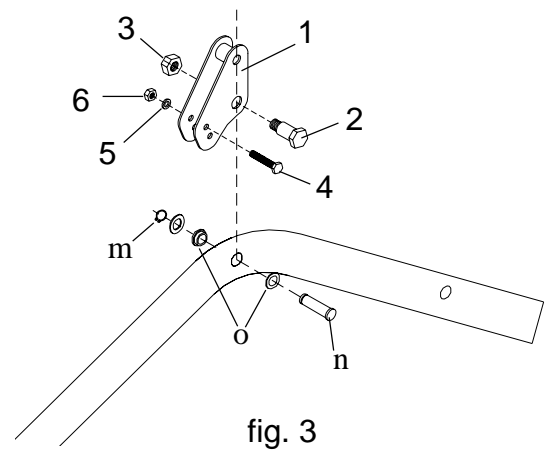

fig. 3
- Position the adaptor (1) as shown in Figure 3 and fit the bolt (2) and the locking nut (3).
- Fit the pins (m) and locking rings (n) as shown in Figure 3.